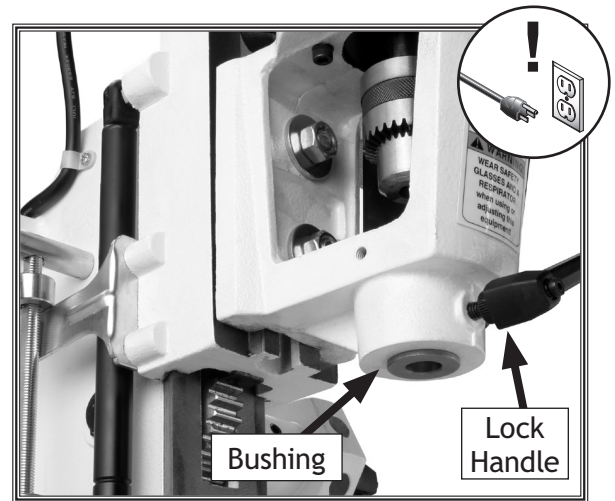

Figure 10. Chisel bushing.
2. Loosen the lock handle (Figure 10), insert a bushing into the socket with the hole facing forward, then tighten the lock handle.